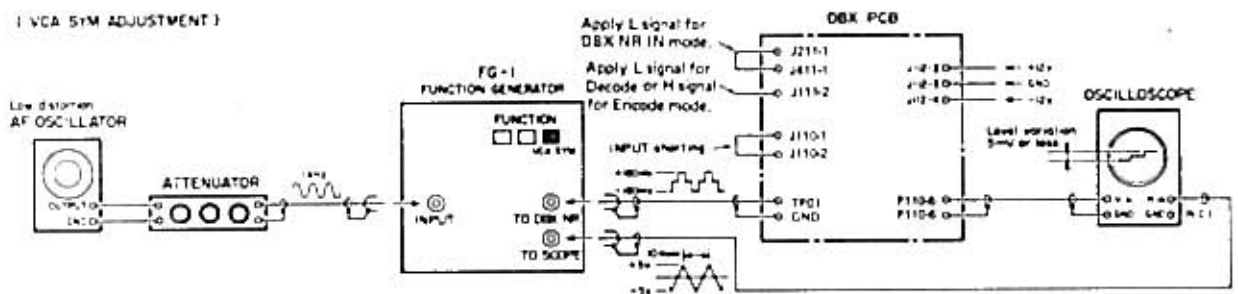

Fig. 1-6-4 VCA Symmetry Adj.
B. VCA Symmetry Adjustment (Connection: Fig. 1-6-4)